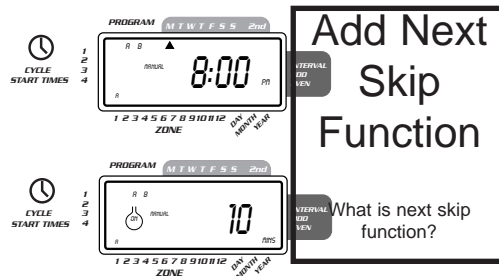

FIGURE 11: Semi-Automatic Watering Entered for A and B Programs, All Stations
**Note:** Water durations assigned to station 1 in program A will water first, then move to station 1 in program B before advancing to the second station and will continue alternating. Only those stations assigned a watering duration will water when using the manual or semi-automatic mode [See Figure 11].